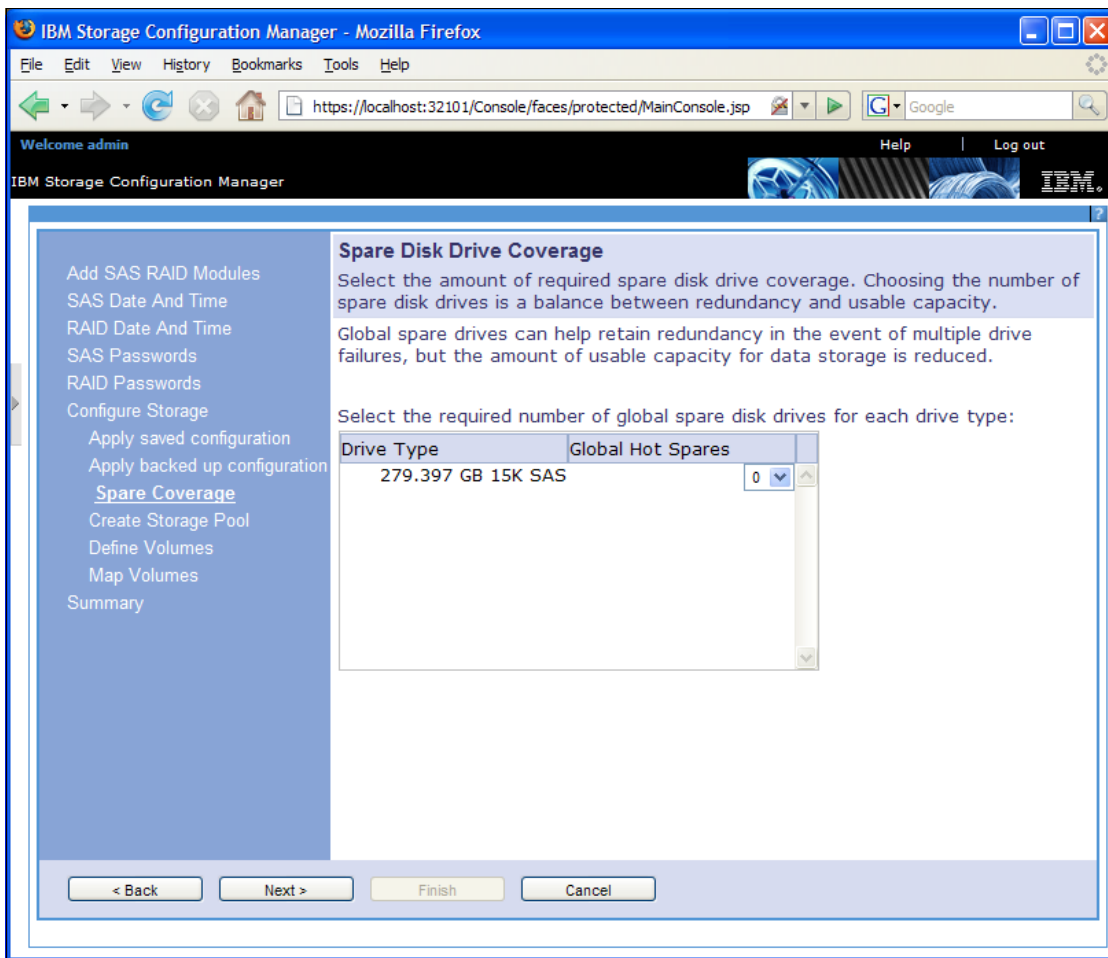

Figure 2-39 Spare Disk Drive Coverage window
9. Plan to add redundancy for this data. As Windows Essential Business Server data will be kept on this storage, you can plan to add redundancy for this data. The “Spare Disk Drive Coverage” panel (Figure 2-39) allows spare disks to be defined. These will be used as online replacement in case any working disk fails.